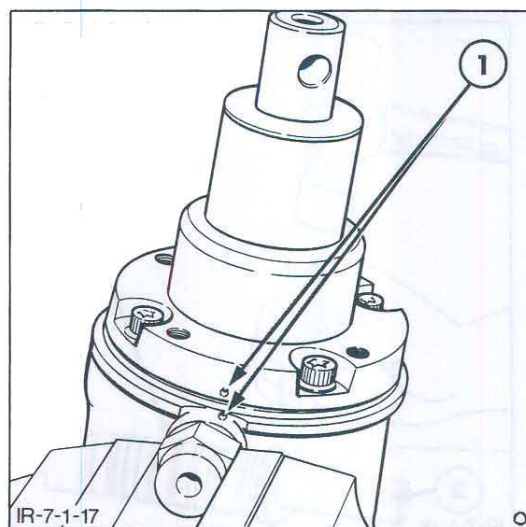

Figure 18
10. Reverse the unit in the vice with the input shaft in a vertical position. To facilitate re-assembly, use a centre punch to mark the upper cover assembly and the port face of the housing, Figure 18.